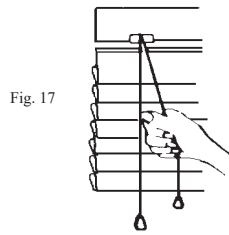

Fig. 17
**Your blind is supplied with a cord tilter.** You will find cord controls on each side of the headrail, one set for tilting the slats (with tassels) and one set for raising and lowering the slats (usually on the right). To tilt the slats to fully closed in one direction, simply pull one cord down. By pulling the **second** cord, it will tilt the slats in the opposite direction (fig. 17).